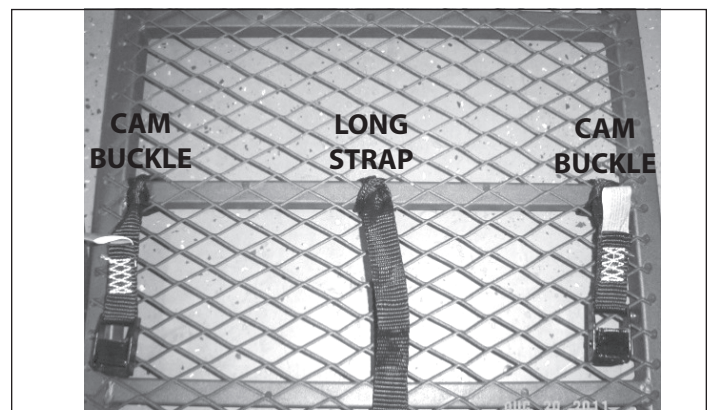

FIGURE 2
1. Attach the two cam buckle straps (13) to each side of the center cross tube on the foot platform (5). Loop the strap around the tube, then put the cam buckle through the looped end and cinch tight.
2. Find the center of the long strap and attach it to the center of the cross tube by looping the strap around the tube. **SEE FIGURE 2**